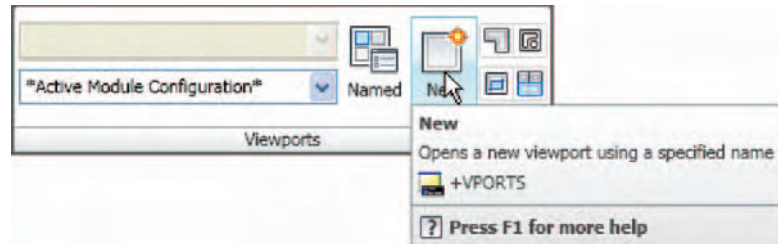
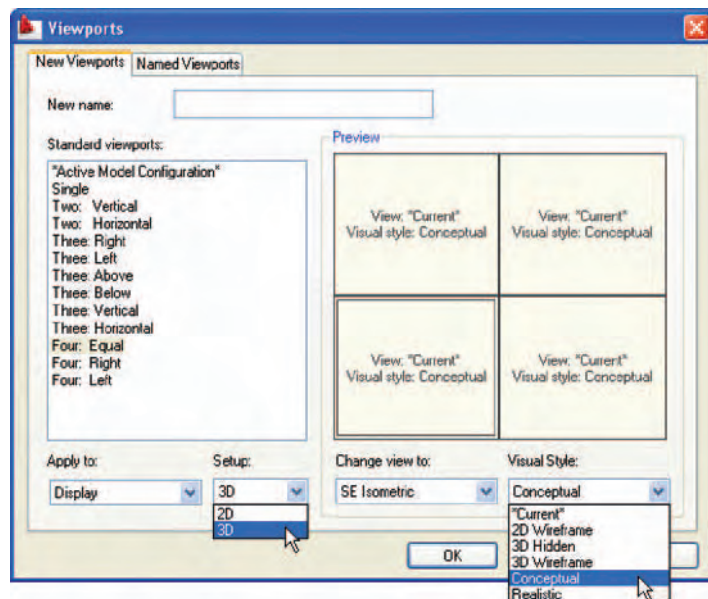

Fig. 13.1 Selecting **New** from the **View/Viewports** panel.
Fig. 13.2 The **Viewports** dialog
1. Click **New** in the **View/Viewports** panel (Fig. 13.1). The **Viewports** dialog appears (Fig. 13.2). In the dialog: